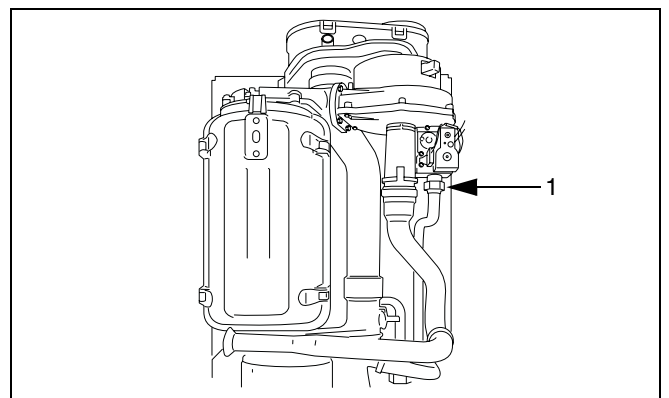

fig. 50 Loosen gas connection
- Loosen the gas connection between the gas supply and the gas air unit (see fig. 50, item 1).